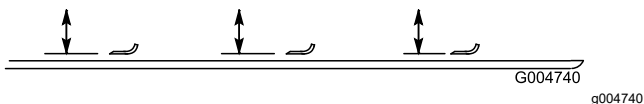

Figure 23
3. Rotate the blade until the ends face forward and backward and measure from the inside of the cutting unit to the cutting edge at the front of the blade (Figure 23).